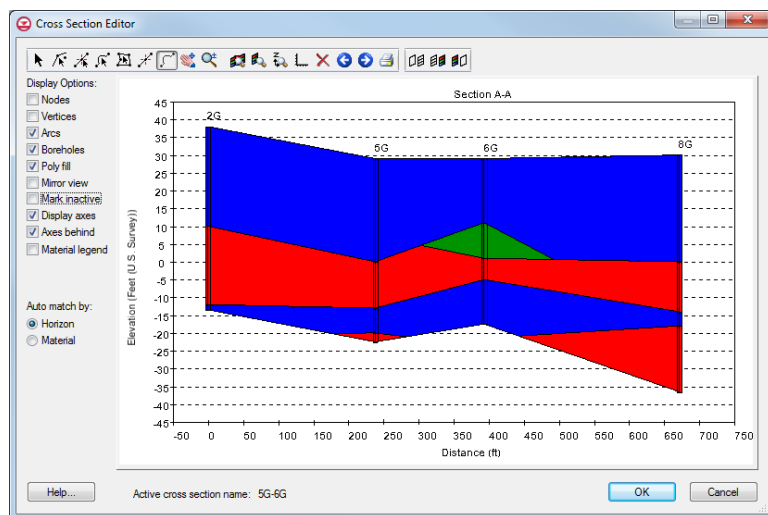

Figure 10 Multi-panel cross section ready for printing
11. In the *Display Options* section on the left, turn off *Nodes*, *Vertices*, and *Mark inactive*. The plot should now look something like Figure 10.